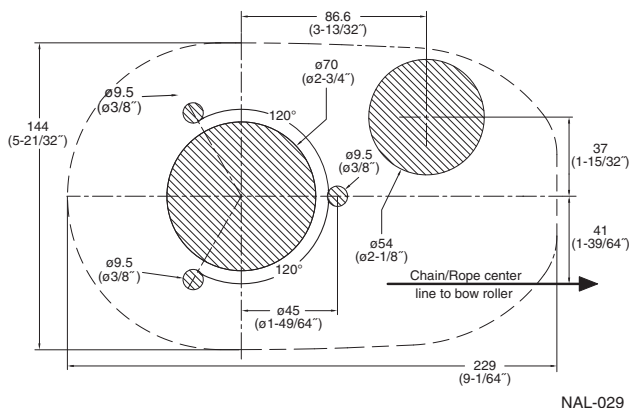

Figure 4-6
1. Using adhesive tape, position and tape the supplied mounting template (**Figure 4-6**) on the deck or mounting pad in the desired position (see *Alignment on page 7*), ensuring to align the anchor rode from the bow roller into the windlass (**Figure 4-7**).